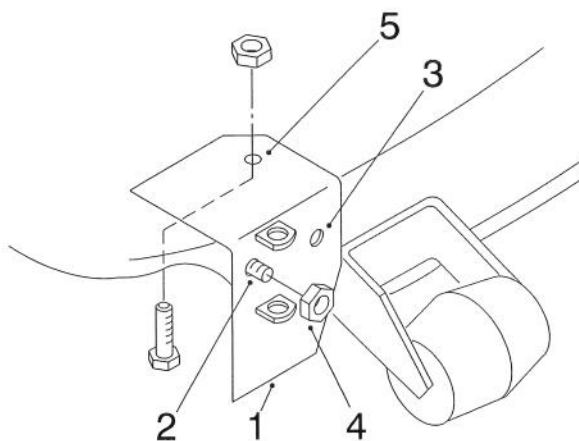

Figure 2
1. Slide the pivot support onto the threaded rod that is welded onto the front of the mower near the discharge opening (Fig. 2).
Note: The pivot support has one hole for mounting it to a 42" mower and a different hole for a 48" mower (Fig. 2). Use the hole for a 42" mower for this installation.
2. Screw the $\frac{3}{8}$ " deflector jam nut (Fig. 2) onto the threaded rod until the nut is flush with the end of the rod.
4. Drill an $1\frac{1}{32}$ " diameter hole in the mower, using the hole in the pivot support as a template (Fig. 2). Remove the clamp after you drill the hole.